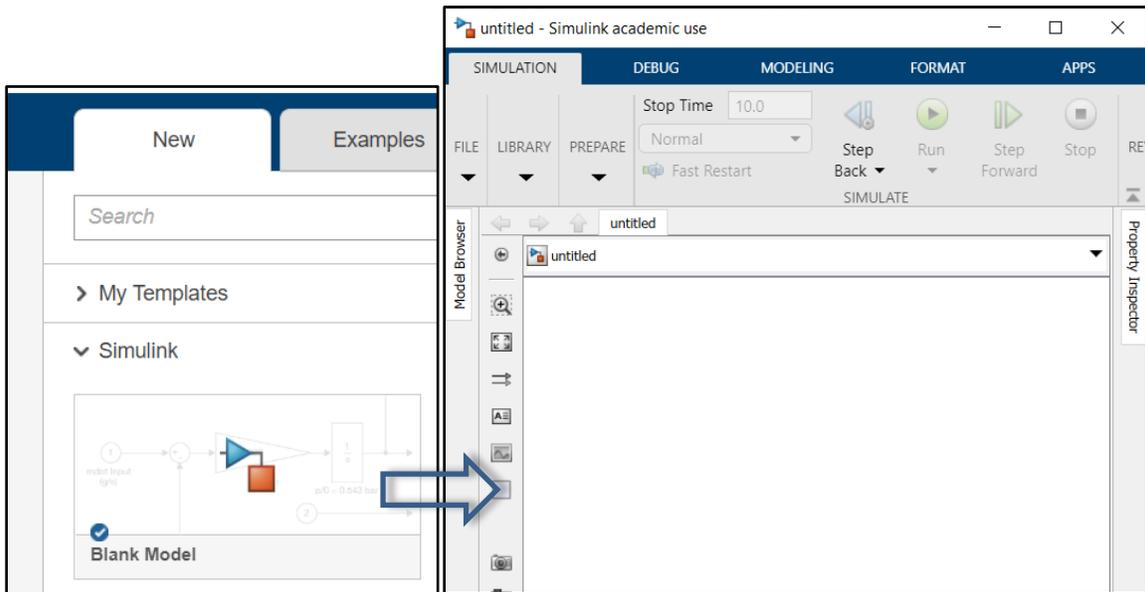

Figure 2. Creating a blank model.
2. Select “Blank Model” and a model window should pop out (see Figure 2)